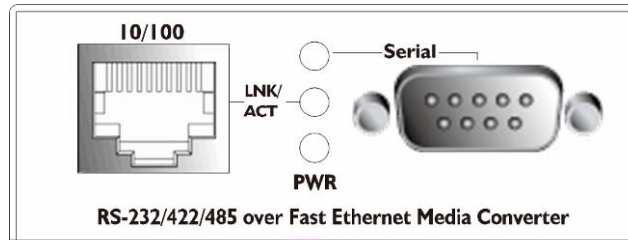

Figure 2-2 PLANET ICS-100 Front Panel
Step 4: After the brackets are attached to the chassis, use suitable screws to securely attach the brackets to the rack, as shown in Figure 2-2.